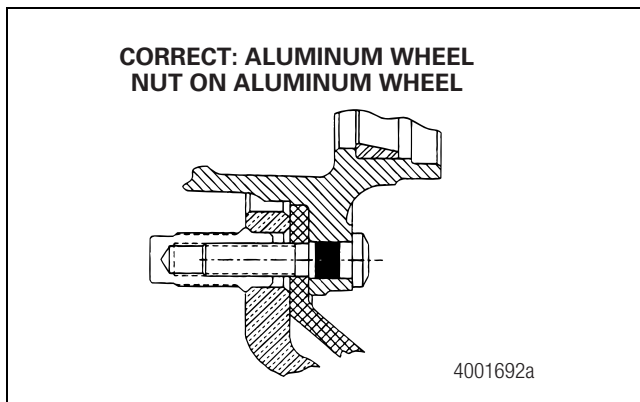
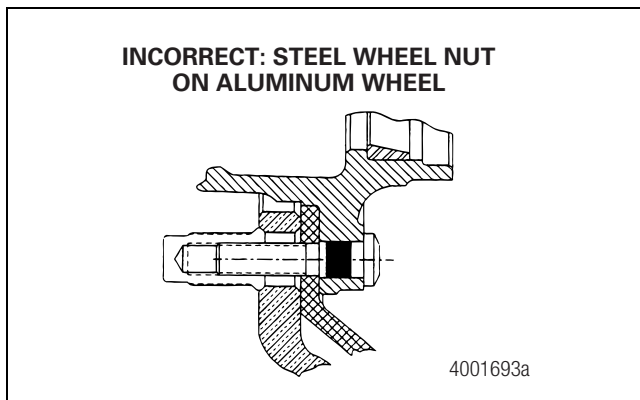

Figure 6.32
Figure 6.33
6. Install aluminum wheel nuts onto aluminum wheels. Do not install steel wheel nuts. An aluminum wheel nut has an extension to accommodate the thickness of the aluminum. Figure 6.32 and Figure 6.33.